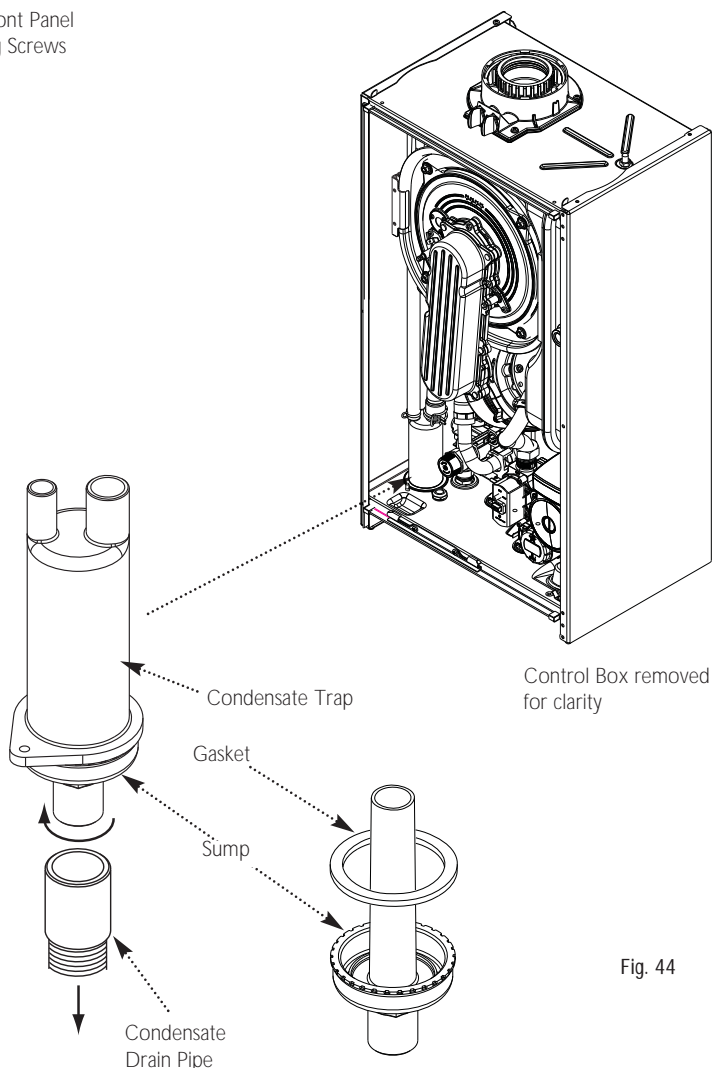

Fig. 44
4. Disconnect the condensate drain pipe and unscrew the sump from the bottom of the condensate trap assembly (Fig. 44). Remove any deposits from the sump and trap. Clean as necessary and replace the sump.